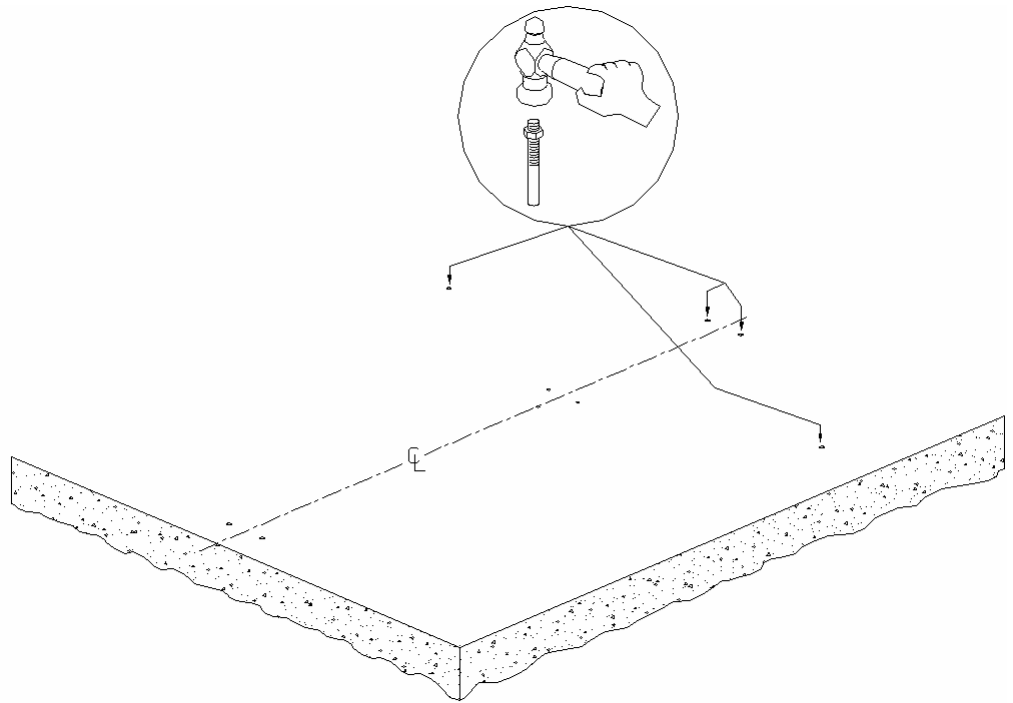

Figure 13
5. Locate the anchor holes for shield assembly. Drive anchor studs into these holes; four studs required; See Figure 13. Allow $\frac{1}{2}$ " inch of anchor stud to remain above floor surface (allows $\frac{1}{8}$ " inch for wall thickness of channel plus $\frac{3}{8}$ " make-up for washer and nut).